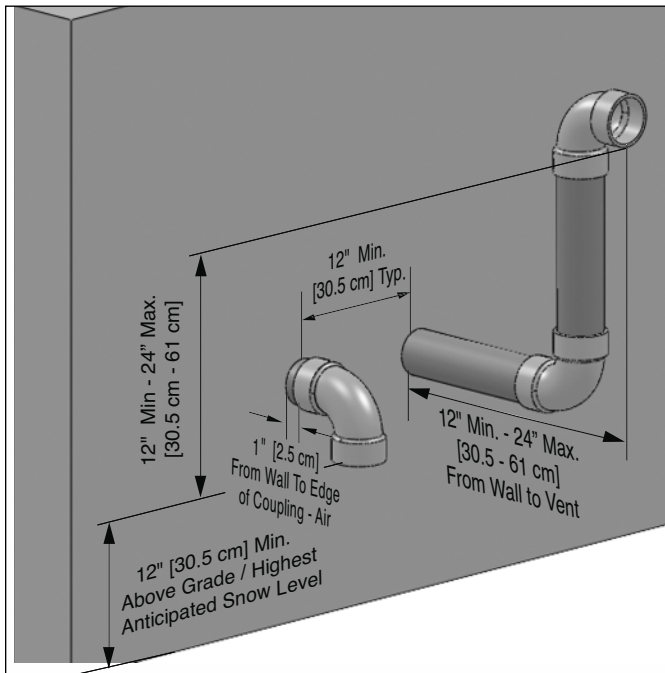
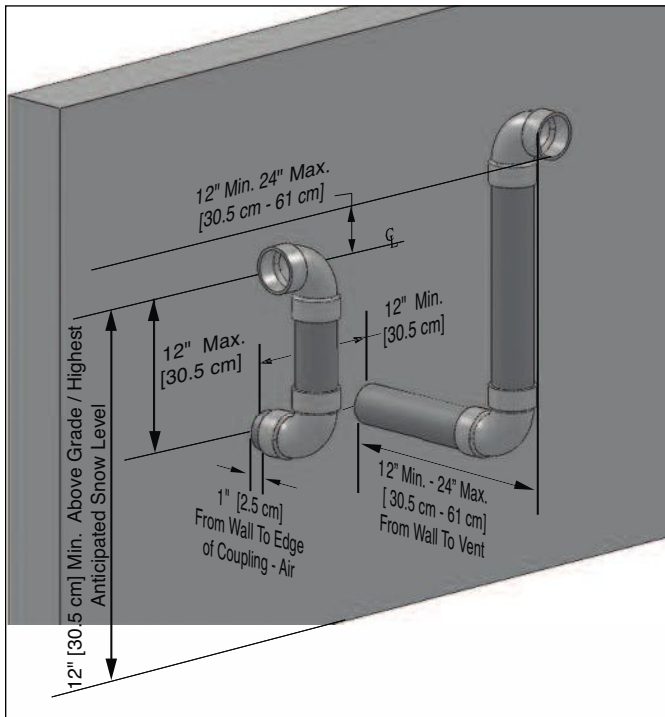

Fig. 8: Direct Vent - Sidewall Termination of Vent and Combustion Air Piping
Fig. 10: Direct Vent - Sidewall Snorkel Termination of Vent and Combustion Air Piping
To reduce the potential of the combustion air inlet freezing up it is recommended to separate the vent and air terminations in both a horizontal and vertical plain as shown in figures 8 through 12 on pages 17 and 18.
2. The combustion air pipe must terminate using a 90° elbow directed away from the vent termination. The combustion air termination must be installed 12" [30.5 cm] minimum above grade / highest anticipated snow level and as shown in Figs. 8 through 15 pages 17 & 18.
The combustion air termination can be placed on either side of the vent termination. The vent and combustion air terminations must be a minimum 12" [30.5 cm] apart. The vent and combustion air terminations are not required to be in the same pressure zone. The combustion air termination must be directed away from the vent see Figs. 10 through 15 pages 17 & 18. The combustion air termination must be directed down for Figs. 8 and 9 page 17.
- Using a 90° elbow as shown in Figs. 8 or 10, page 17.
Do not extend the vent pipe outside the sidewall beyond the dimensions shown in Figs 8 through 15. Extended exposure of the vent pipe could cause condensate to freeze and block the vent pipe.
4. The combustion air and vent pipe center lines must be a minimum of 12" [30.5 cm] apart as shown in Figs. 8 through 15 pages 17 & 18.
6. The vent termination must also meet the following clearances; as shown in Figs. 8 through 15 pages 17 & 18:
7. The edge of the combustion air termination coupling must extend 1" [2.5 cm] beyond the exterior wall as shown in Figs. 8 through 15 pages 17 & 18.
3. Locate the vent and combustion air pipe penetrations to provide clearances as described in Figs. 8 through 15 pages 17 and 18.
2. The combustion air pipe must include a factory supplied "b" elbow as shown in Figs. 8 through 15 pages 17 and 18. Date: 12/08/14
- Using a 90° elbow as shown in Figs. 8 or 10 page 17.
Do not extend the vent pipe outside the sidewall beyond the dimensions shown in Figs. 8 through 15. Extended exposure of the vent pipe could cause condensate to freeze and block the vent pipe.
Reference Figs. 8 or 9 page 17 for the configuration dimensions for the vent and combustion air inlet terminations for each unit installed in a multiple installation.